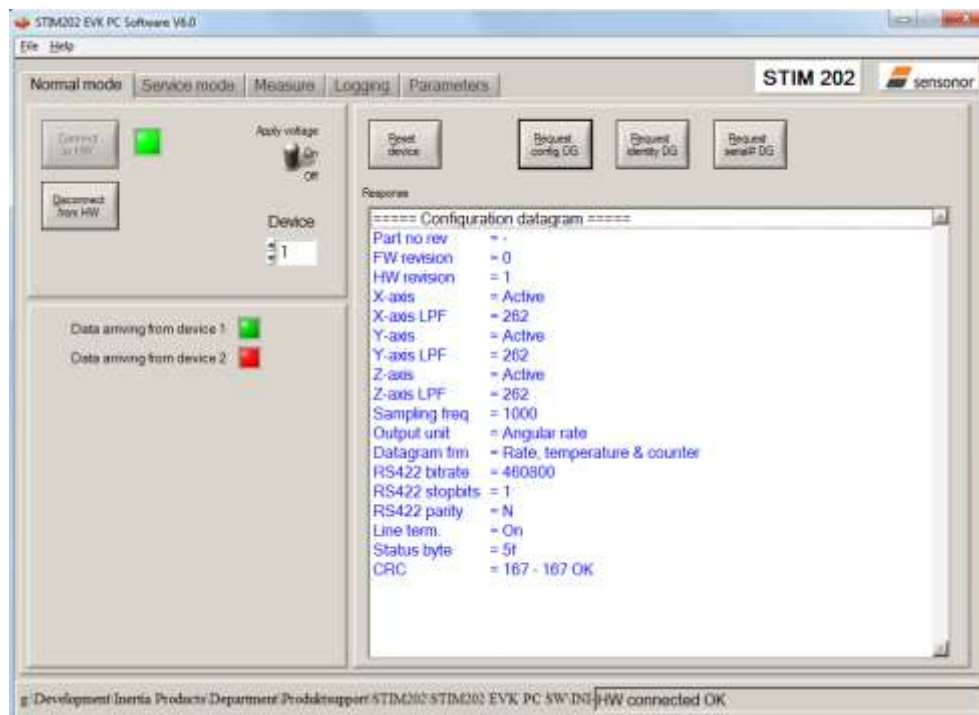

Figure 19: Result of sending 'Request config DG' to the gyro module
- Verify the connection to module by clicking on the 'Request config DG' button. An example of such a result is shown in Figure 19. (The kit is now ready for use !)